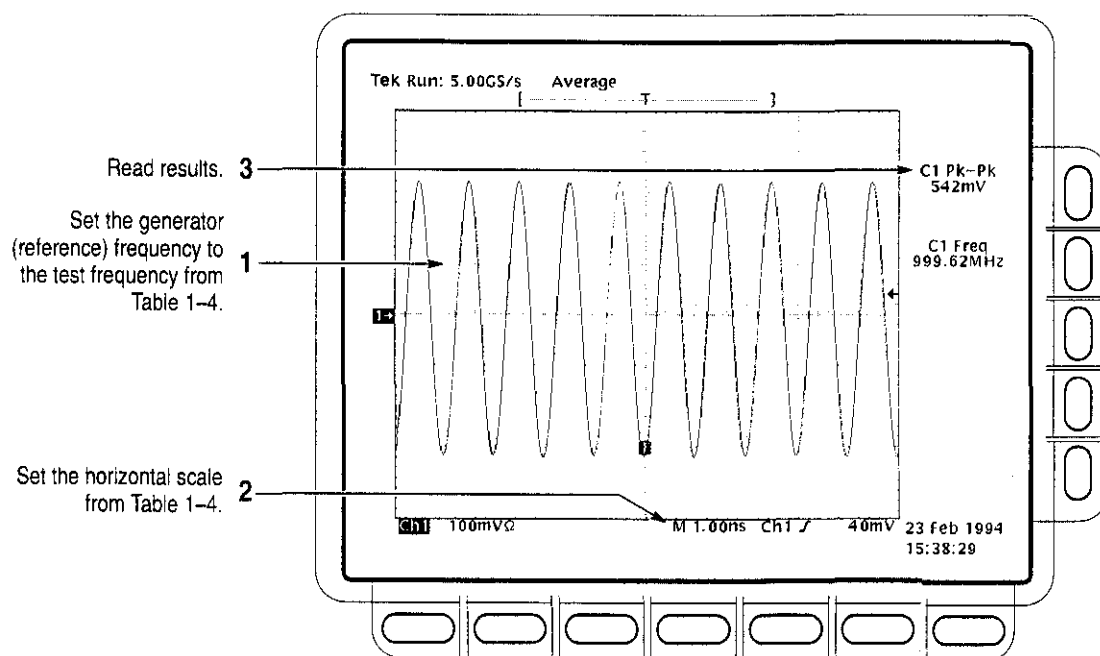

Figure 1-8: Measurement of Analog Bandwidth
- Set the frequency of the generator, as shown on screen, to the test frequency in Table 1-4 that corresponds to the vertical scale set in substep d. See Figure 1-8.
- Read the results at the CHx Pk-Pk readout, which will automatically measure the amplitude of the test signal. See Figure 1-8.